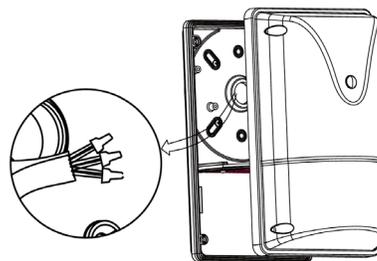

Fig. 5
6. Connect the luminaire to supply wires (Fig. 5).